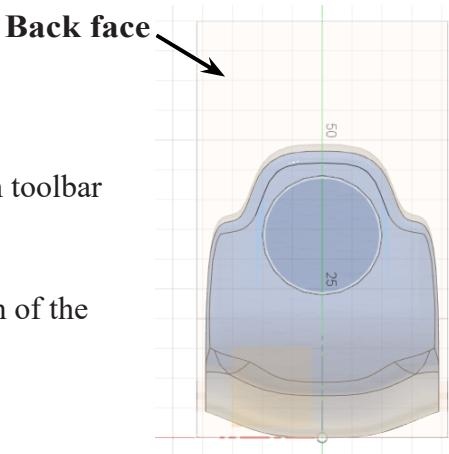
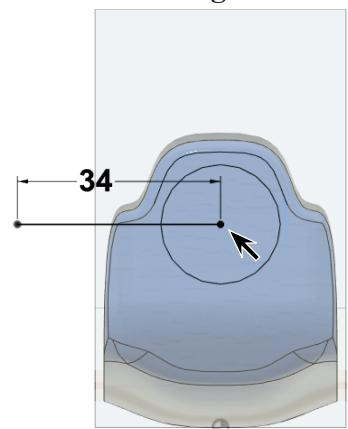

Fig. 7
Fig. 8
Step 1. Click **Back view** on View Cube  , Fig. 7.
Step 2. On the Solid tab **SOLID** click **Create Sketch**  in toolbar and click **back face** of Blank body, Fig. 7.
Step 4. Click **Line**  (L) on the toolbar.
Step 5. Sketch a **horizontal line to the left from the centerpoint of the cartridge hole**, Fig. 8.
Step 6. Click **Dimension**  (D) on the toolbar.
Step 7. Dimensions line **34**, Fig. 8.